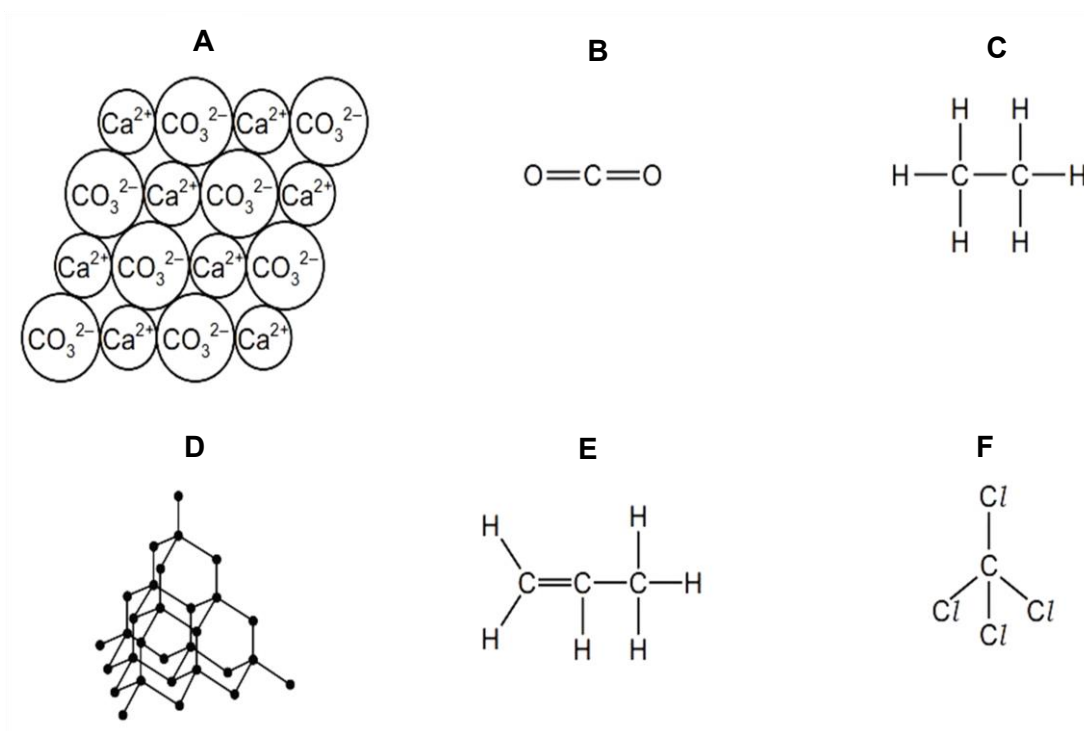

Fig. 1.1
- 1 The structures of some carbon-containing substances, **A**, **B**, **C**, **D**, **E** and **F** are shown in Fig 1.1.